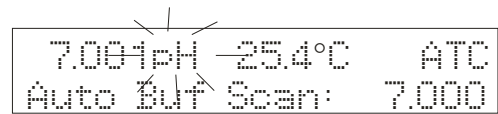

Figure 16
1. When entering the standard calibration mode, the first buffer calibration point for standard pH buffers is 7.000 or 6.860 (depending upon which pH buffer set is selected). The upper display shows the current reading, the lower display will show *Auto Buf Scan: 7.000* (or 6.860). The upper display will flash pH until the reading has stabilized. See **Figure 16**. If the selected buffer value is not within  $\pm 1.0$  of the measured pH value, the Auto pH Scan will continue to change until the pH buffer is within  $\pm 1.0$ .